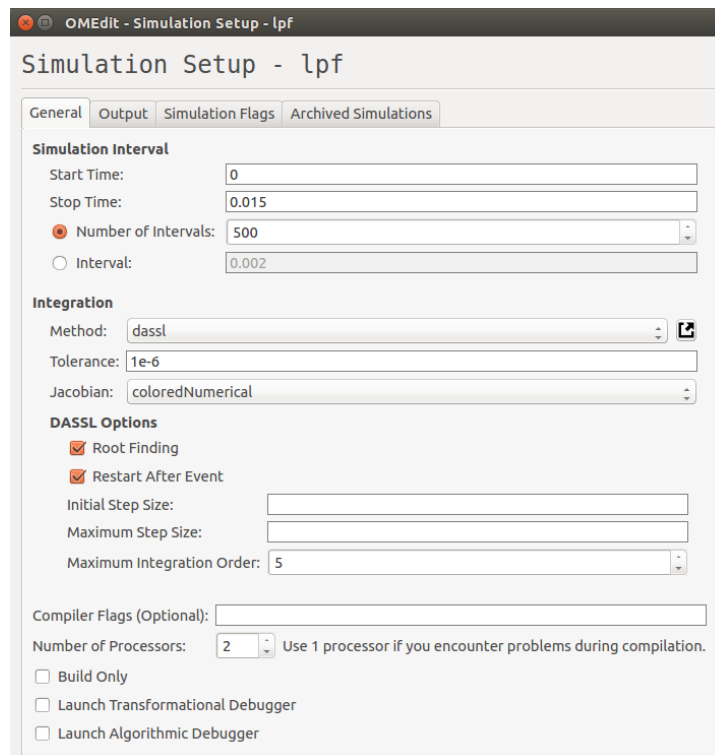

Figure 10.6: OpenModelica: Simulation setup
6. Click on Simulation Setup on the toolbar at the top. A window opens as shown in Fig. 10.6. Give start and stop time. Click OK.